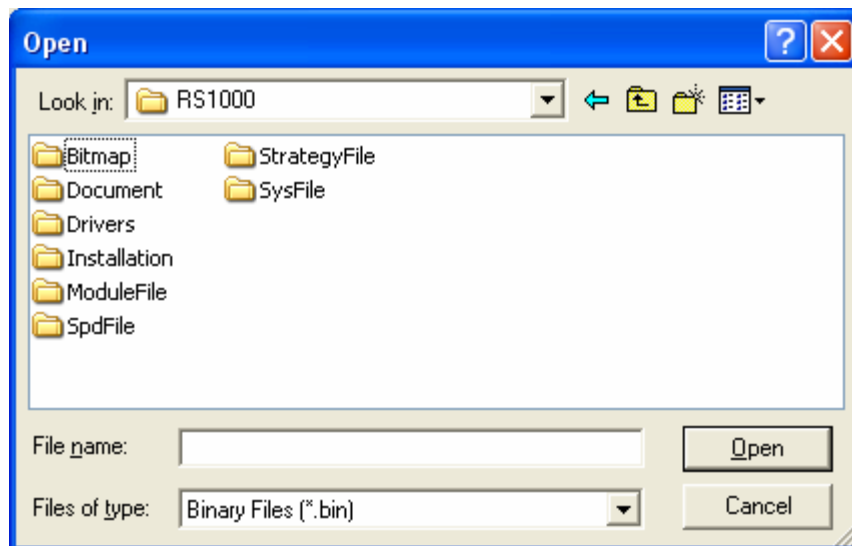

Fig. 45
Step 4: Click on “Browse” and select the correct firmware file (.bin extension) from the open file dialogue box. (Fig. 45)